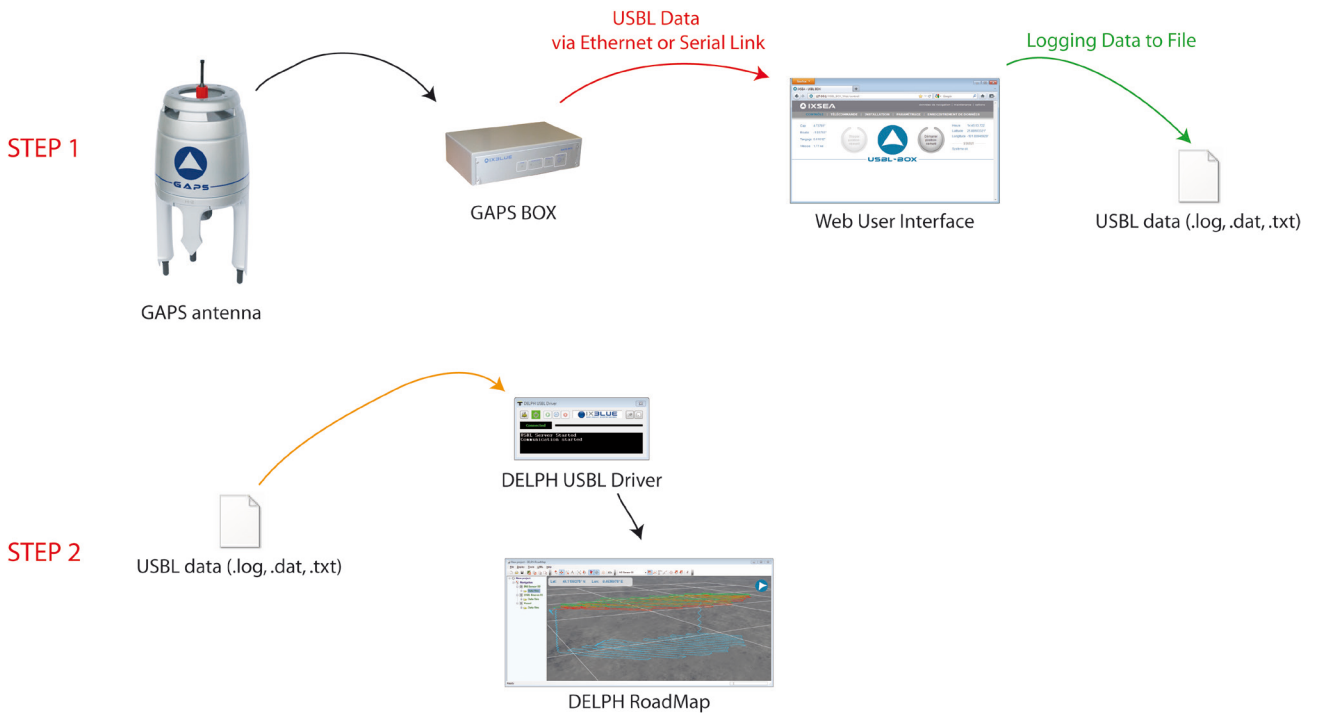

Figure 42 – Visualization of USBL data in replay mode
- Replay mode: the data has already been acquired in a first step and the data file is in a second step progressively read at a certain rate by DELPH USBL Driver and displayed in DELPH RoadMap main display area. See Figure 42.